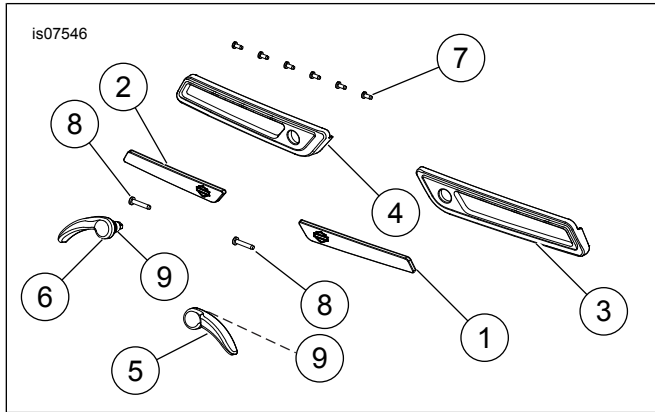

Figure 2. Service Parts: Hinge Cover and Lever Kit
See Figure 2 and Table 1.
1. See Figure 2. Clean reflector mounting surface in faceplate (4) with an equal mixture of water and isopropyl alcohol. Allow to dry thoroughly.
2. Remove the adhesive backing from the reflector (2). Install the reflector in the faceplate.